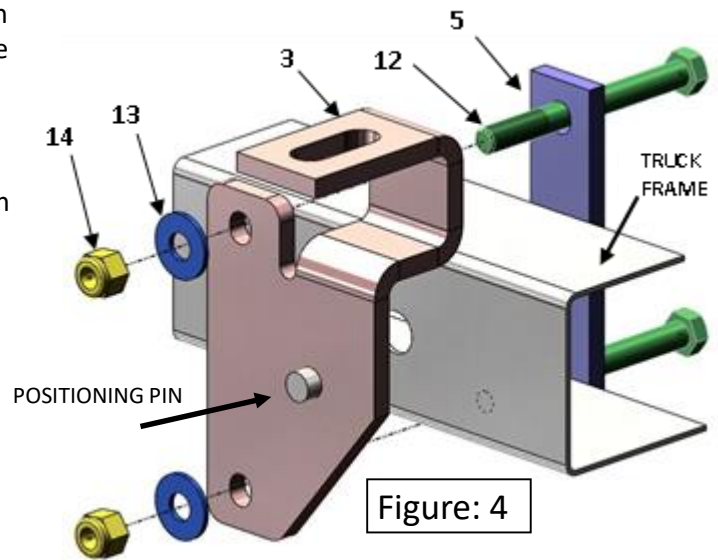

Figure: 4
3. Place the two base rails across the truck bed between the wheel wells. Position the 5th wheel uprights between wheel wells. When hitch is correctly positioned in the bed and the base rails are parallel, mark four attachment points on the truck bed using the 5/8" square holes indicated on Figure 4. Check below the bed before drilling holes to see that all wiring, brake lines, or other obstructions are moved out of the way and will not be contacted by the drill.